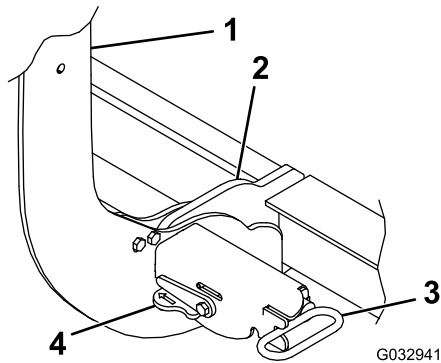

Figure 29
4. Turn the levers on the spring pins to the LOCK position (Figure 29).
- Ensure that both spring pins have fully engaged the coupler (Figure 29).